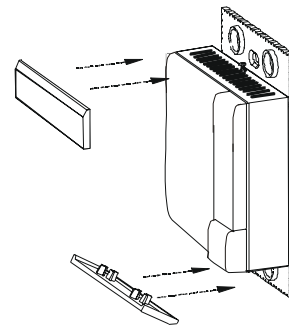

Figure 13: Installing Endcaps in Wallbox Applications
3. Install the endcaps provided by snapping them onto the wallplate. (See Figure 13.)